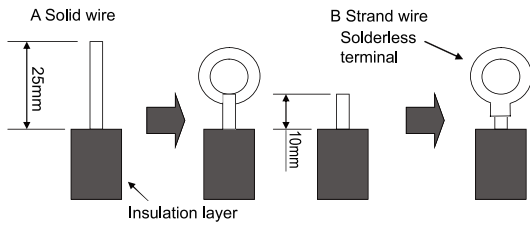

Fig.33
- (1). For solid core wiring (Fig.33)
(2). For strand wiring (Fig.33)